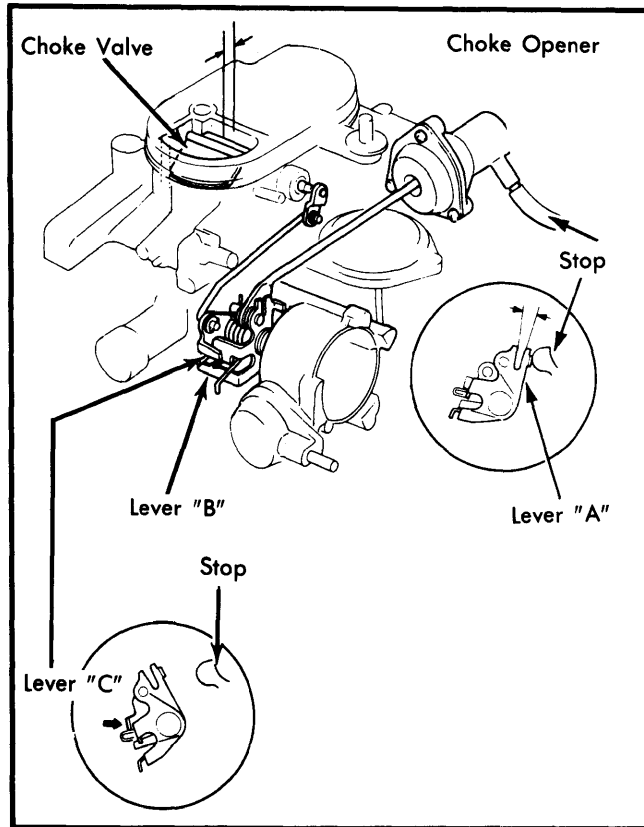

Fig. 2 Measuring Choke Valve Opening
2) Push choke opener rod in towards diaphragm until it stops. Measure choke valve clearance. Adjust clearance to .030-.036" (.76-.90 mm) on Civic or .265-.271" (.61-.75 mm) on all other models. See Fig. 2.